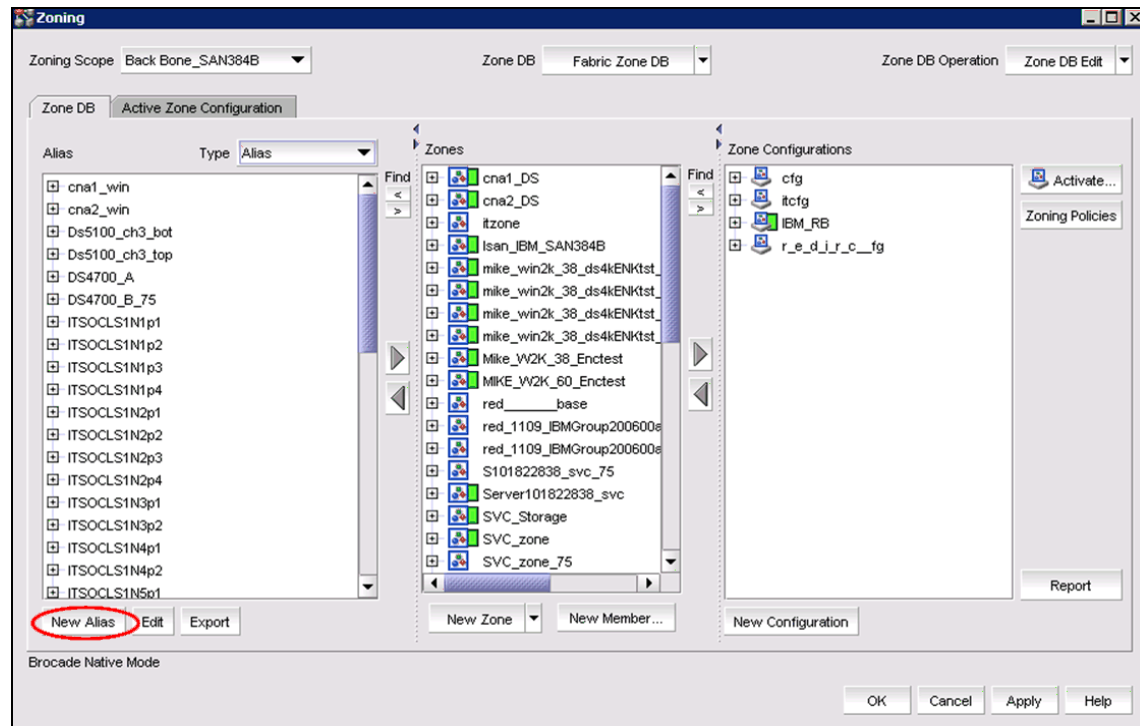

Figure 12-9 New Alias
3. Click **New Alias** (see Figure 12-9).